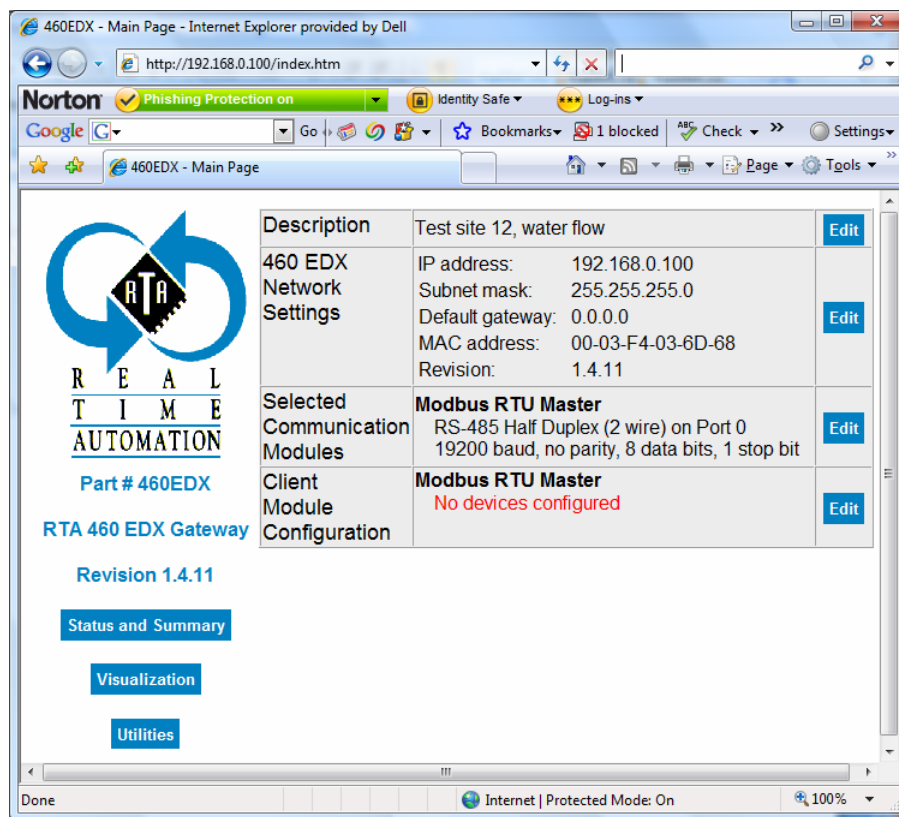

Figure 2-9 Modbus RTU Master Client Module Configuration
- Click on the **Return to Main** button. The RTA 460 Gateway Main Page displays with a Client Module Configuration option. See Figure 2-9.